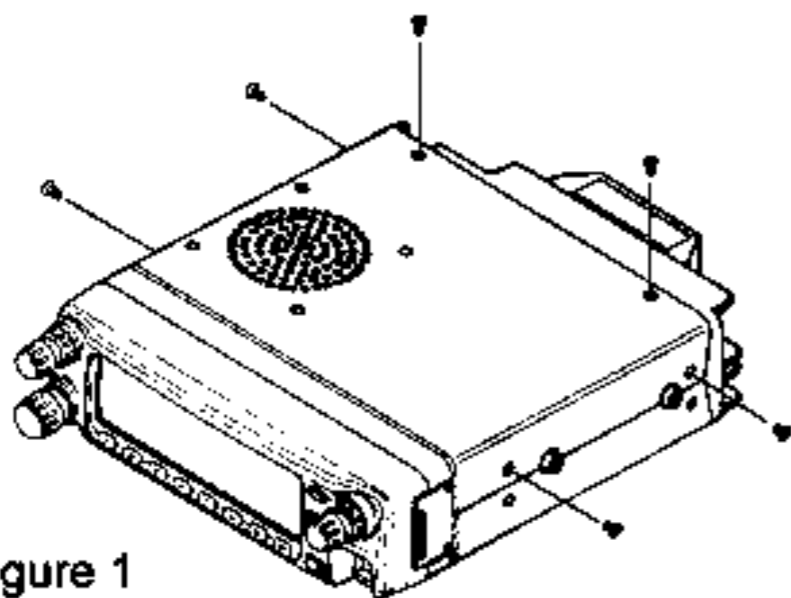

Figure 1
- Referring to Figure 1, remove the six screws affixing the top cover.